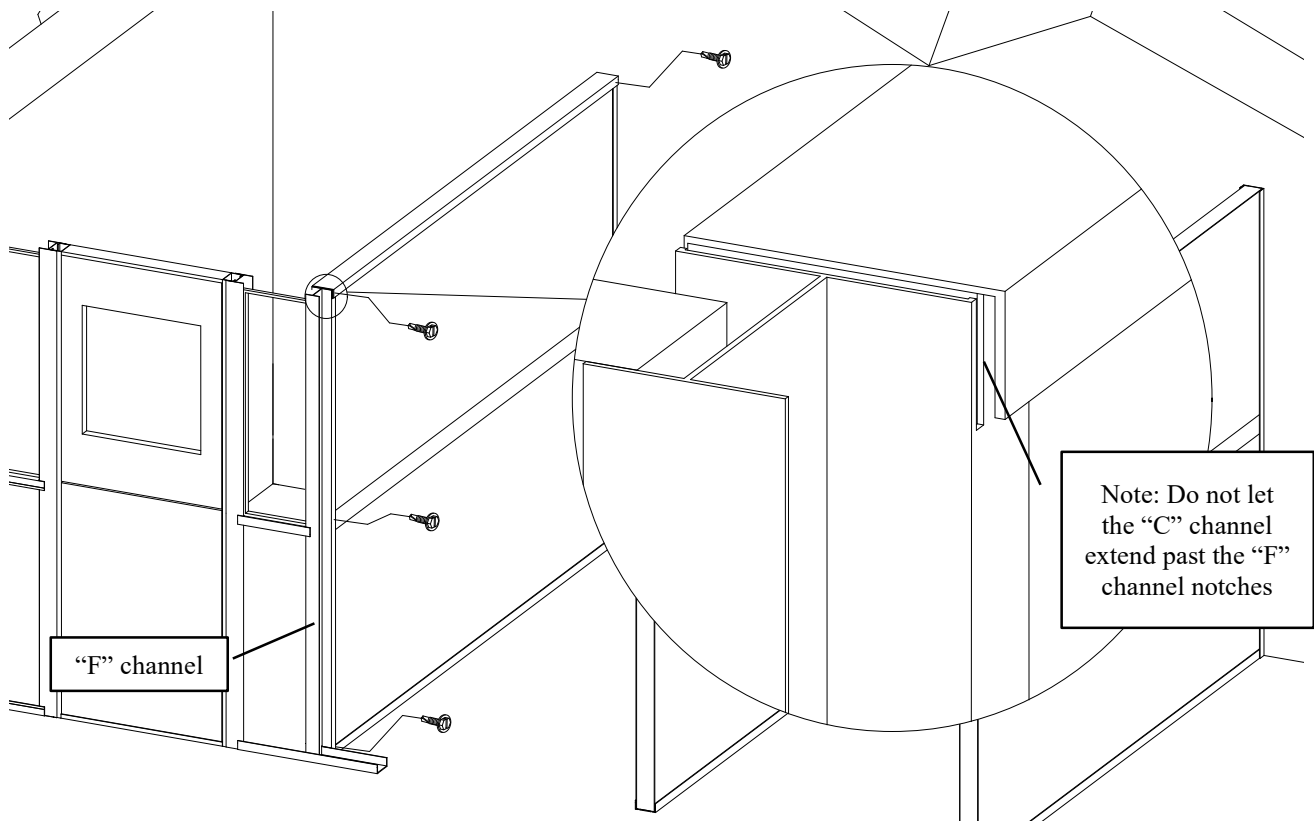

Figure 32
17. Using a level make sure the “F” channel is vertical, then using the supplied TEK screws fasten the “F” channel to the division wall extrusions. Make sure that the “C” channel does not cover the notches at the tops of the “F” channels. Do this for both sides of the “F” channel. See figure 32.